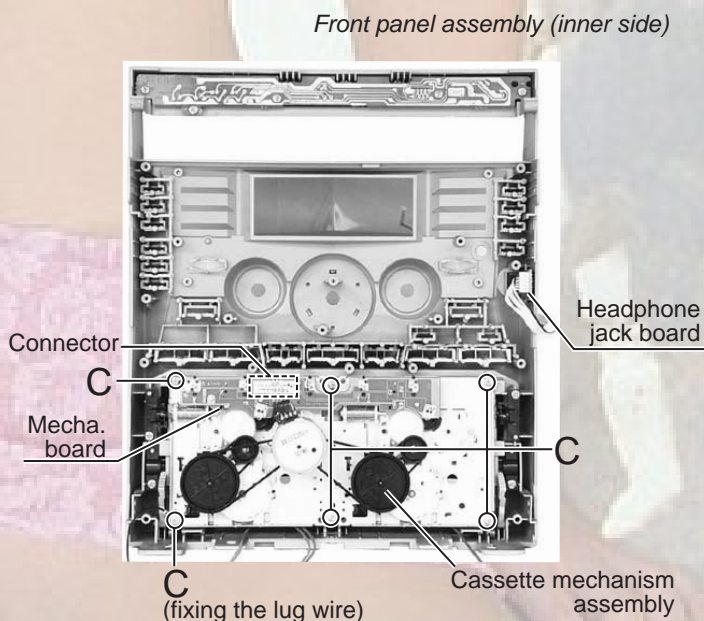

Fig.3
**■ Removing the cassette mechanism assembly (See Fig.3)**